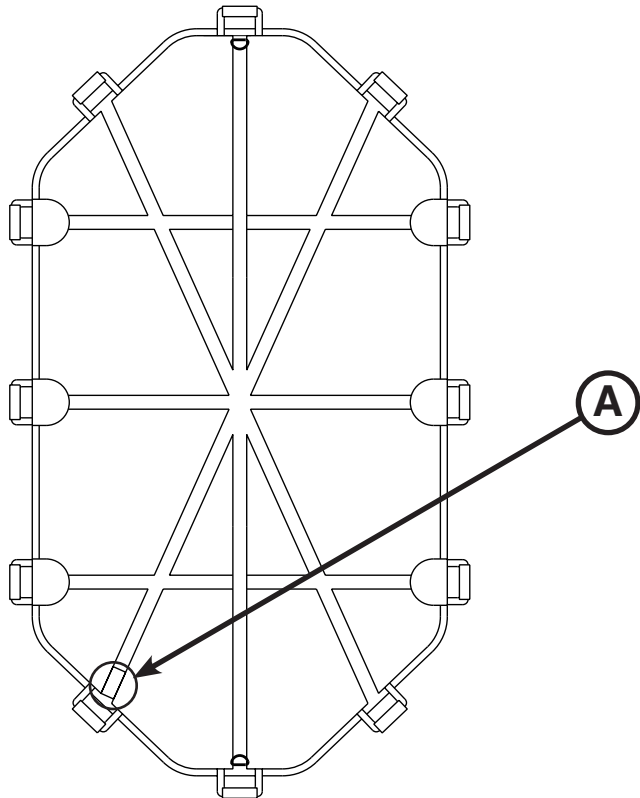

Figure 1: Lot Number & Location
Please have the lot number, located on the specification label (A) of your Stryker product available (as shown in Figure 1), when calling Stryker Customer Service or Technical Support. Include the lot number in all written communication.